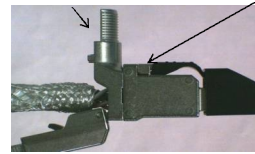

Figure 11b
- 9) With the circuit board / wire carriers / cable fully seated into the RJ45 connector body, select the Connector Orientation per dwg. or installation (reference Fig. 10), and install the rear body (Fig. 11a) until flush with front body (detents snap in). Using the 110700 parallel-jaw pliers, close the Locking latch tab (Fig. 11b) until it snaps shut. Lock should be flush with body (Figs. 11a & 11b).
- 10) Confirm correct connector orientation. If orientation needs to be changed, open the Lock latch using a small screwdriver (Fig. 12). Re-install rear body into the front body, in desired orientation, until flush with front body. Close the Locking latch tab (Fig. 11b) until it snaps shut. Lock should be flush with body (Figs. 11a & 11b).